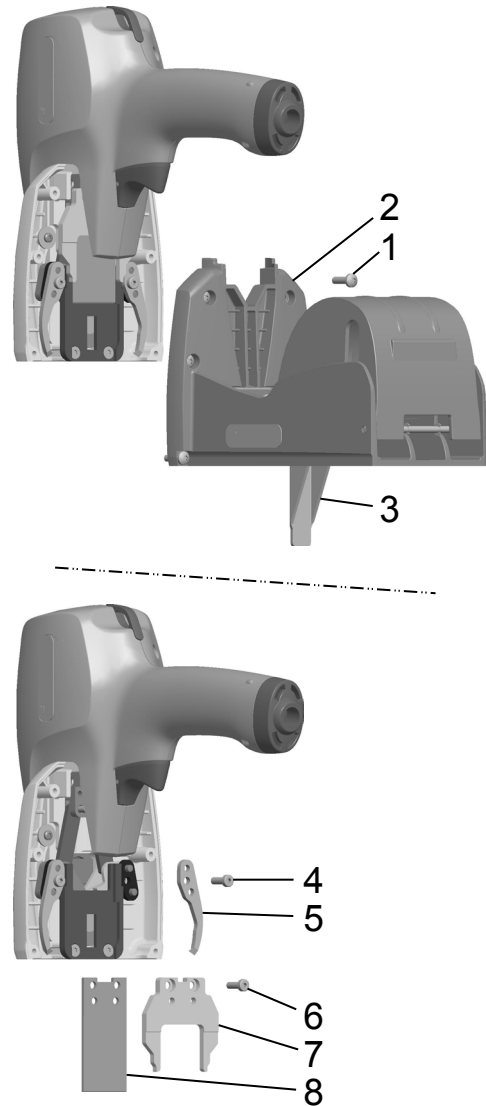

Fig. 11
- Remove six screws (Fig. 11/1) holding the rear body to the front section.